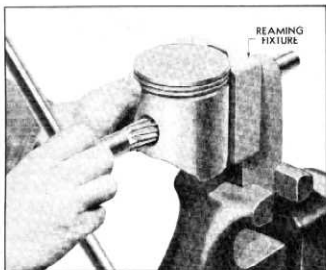

Fig. 47—Reaming Piston Pin Bushings
4. Hold the piston in the V-block of the fixture with one hand and turn the reamer handle with the other hand until the reamer has passed through both bushings (fig. 47).